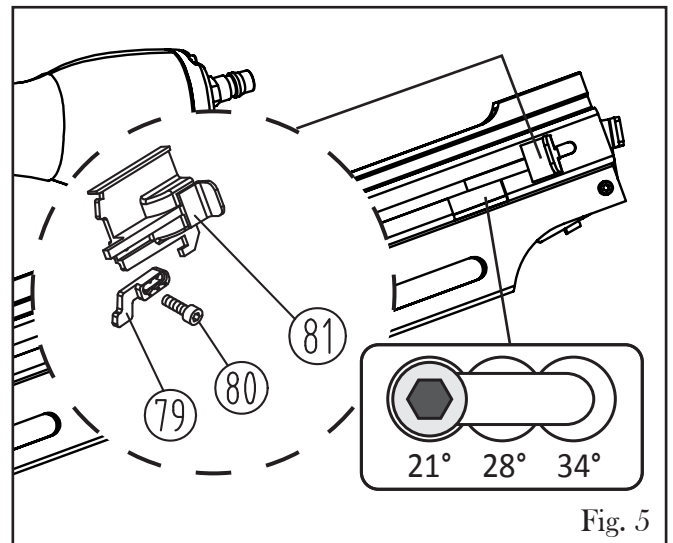

Fig. 5
The rubber non-marring tip (Fig. 5 - 1) is attached to your nailer's safety bracket to reduce marring and damage to your workpiece during operation.
1. Slide the feeder shoe (Part No. 61731-081) all the way back along the magazine until it latches (Fig. 5).